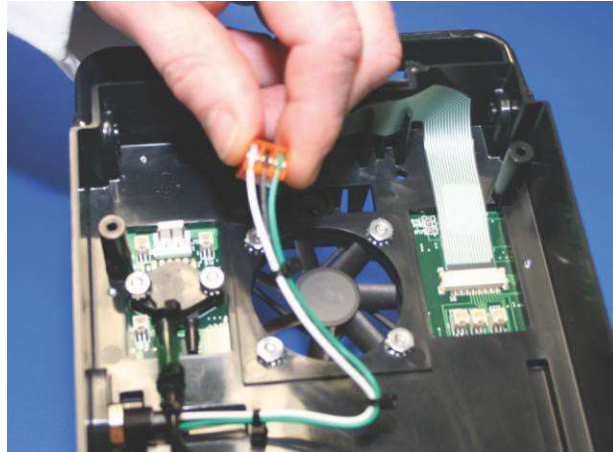

Figure 5.30
5. Remove DC power input connector from location J1, pin 3 connector on circuit board. (Figure 5.30)